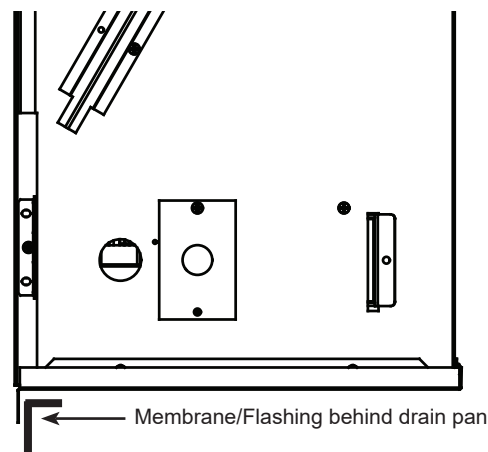

Figure 2. Drain pan installed under appliance.
3. The enclosure is to be at an angle at least 1/4" per foot slope to ensure proper drainage. See Figure 2.